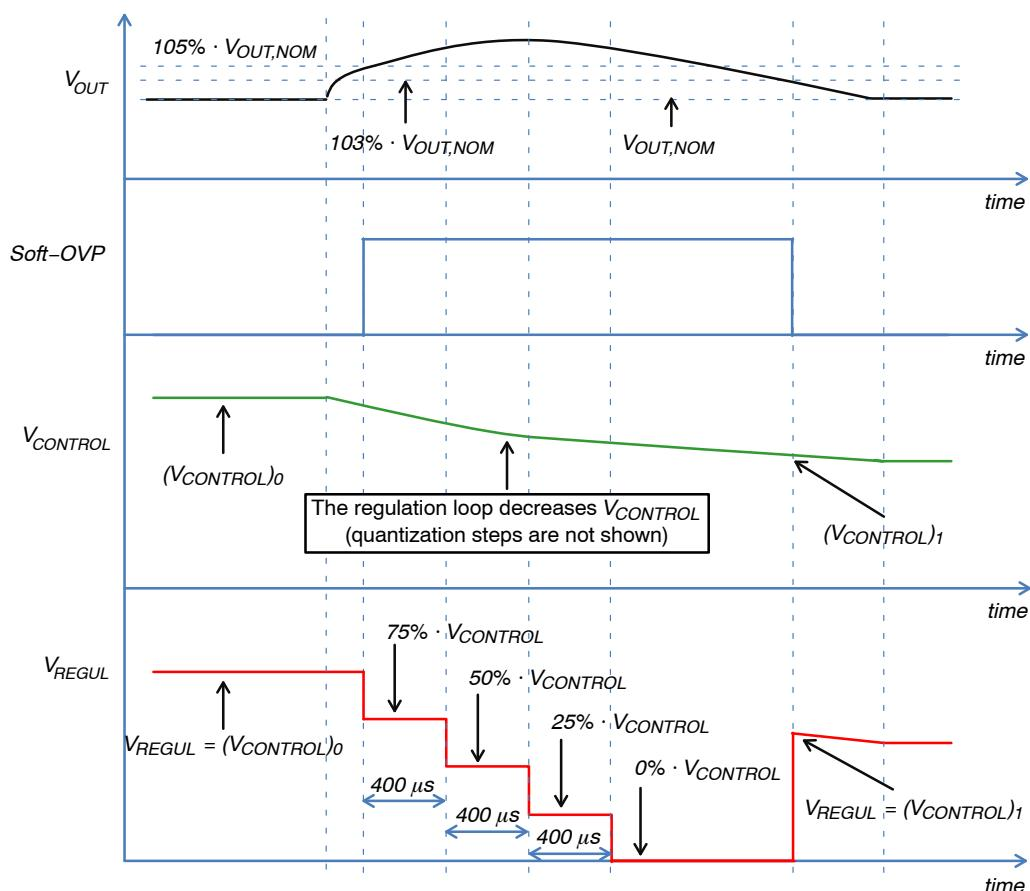

Figure 13. Soft-OVP
- Then, enters a soft-stop sequence to gradually reduce the line current and thus minimize the risk of audible noise. If the output voltage reaches the soft-OVP level (105% $V_{out,nom}$), the protection trips and the 4-step stop illustrated by Figure 13 takes place.